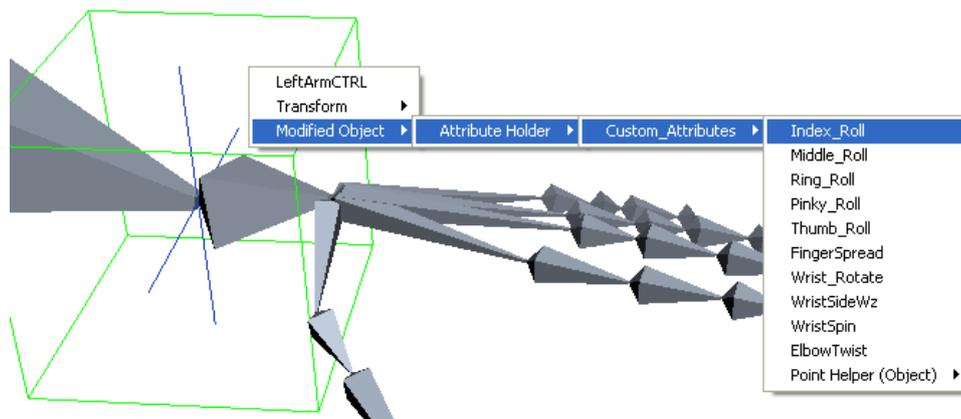

Figure 10: Selection of Master Parameter for the Index_Roll parameter
- iii. A popup will appear from which select the parameter of the control as shown in the Figure 10: